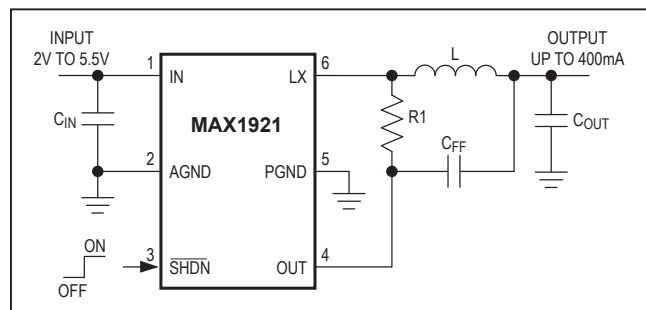
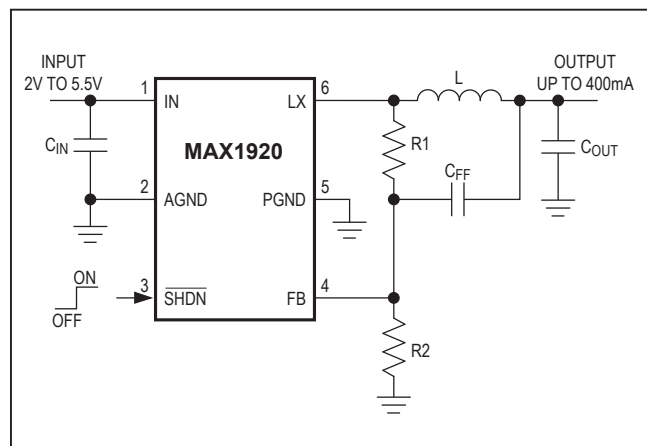

Figure 1. Typical Output Application Circuit (MAX1921)
Figure 2. Typical Application Circuit (MAX1920)
( $C_{IN} = 2.2\mu F$  ceramic, Circuit of Figure 1, components of Table 1, unless otherwise noted.)
(CIN = 2.2μF ceramic, Circuit of Figure 1, components of Table 1, unless otherwise noted.)
The MAX1920/MAX1921 are optimized for small external components and fast transient response. There are several application circuits (Figures 1 through 4) to allow the choice between ceramic or tantalum output capacitor and internally or externally set output voltages. The use of a small ceramic output capacitor is preferred for higher reliability, improved voltage-positioning transient response, reduced output ripple, and the smaller size and greater availability of ceramic versus tantalum capacitors.
Figures 1 and 2 are the application circuits that utilize small ceramic output capacitors. For stability, the circuit obtains feedback from the LX node through R1, while load transients are fed-forward through CFF. Because there is no D.C. feedback from the output, the output voltage exhibits load regulation that is equal to the output load current multiplied by the inductor's series resistance. This small amount of load regulation is similar to voltage positioning as used by high-powered microprocessor supplies intended for personal computers. For the MAX1920/MAX1921, voltage positioning eliminates or greatly reduces undershoot and overshoot during load transients (see the *Typical Operating Characteristics*), which effectively halves the peak-to-peak output voltage excursions compared to traditional step-down converters.
**Table 1. MAX1921 Suggested Components for Figure 1**
For convenience, Table 1 lists the recommended external component values for use with the MAX1921 application circuit of Figure 1 with various input and output voltages.
The output capacitor,  $C_{OUT}$ , may be either ceramic or tantalum depending upon the chosen application circuit (see Figures 1 through 4). Table 3 lists some suggested capacitor suppliers.
For ceramic  $C_{OUT}$ , use the application circuit of Figure 1 or Figure 2. Calculate the minimum capacitor value as:
When using the application circuit of Figure 1, the inductor's series resistance causes a small amount of load regulation, as desired for a voltage-positioning load transient response. Choose R1 such that VOUT is high at no load by about half of this load regulation. The simplified calculation is:
When using the application circuit of Figure 2, the inductor's series resistance causes a small amount of load regulation, as desired for a voltage-positioning load transient response. Choose R1 and R2 such that VOUT is high at no load by about half of this load regulation: